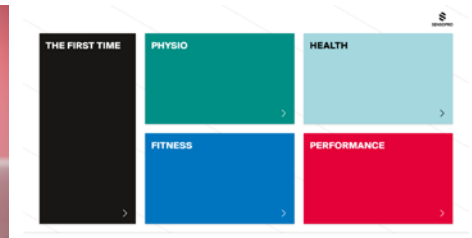

Figure 2:
2. Touch the screen to get to categories view (figure 2).
4. Touch «Information» (A on figure 2) to get to the maintenance instructions for the various device components.